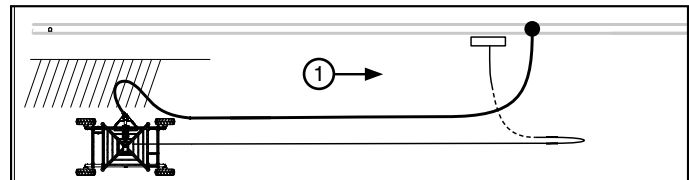

Figure 53-3 1. Direction of Travel
- (b) As the side inlet pivots the hose is pushed out away from the cart and guided by either the side walls of the cart tires. See Figure 53-3.